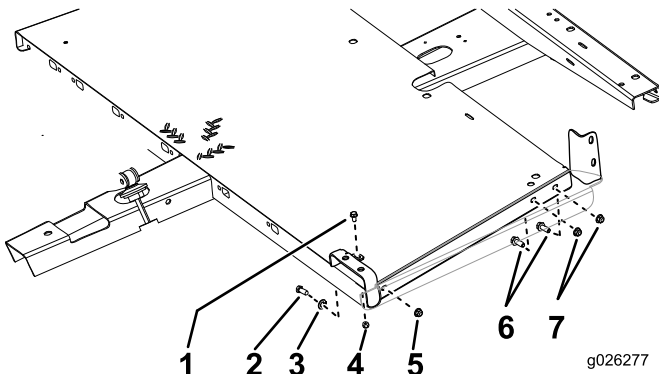

Figure 3
- Secure the floor panels to the frame as shown in Figure 3.